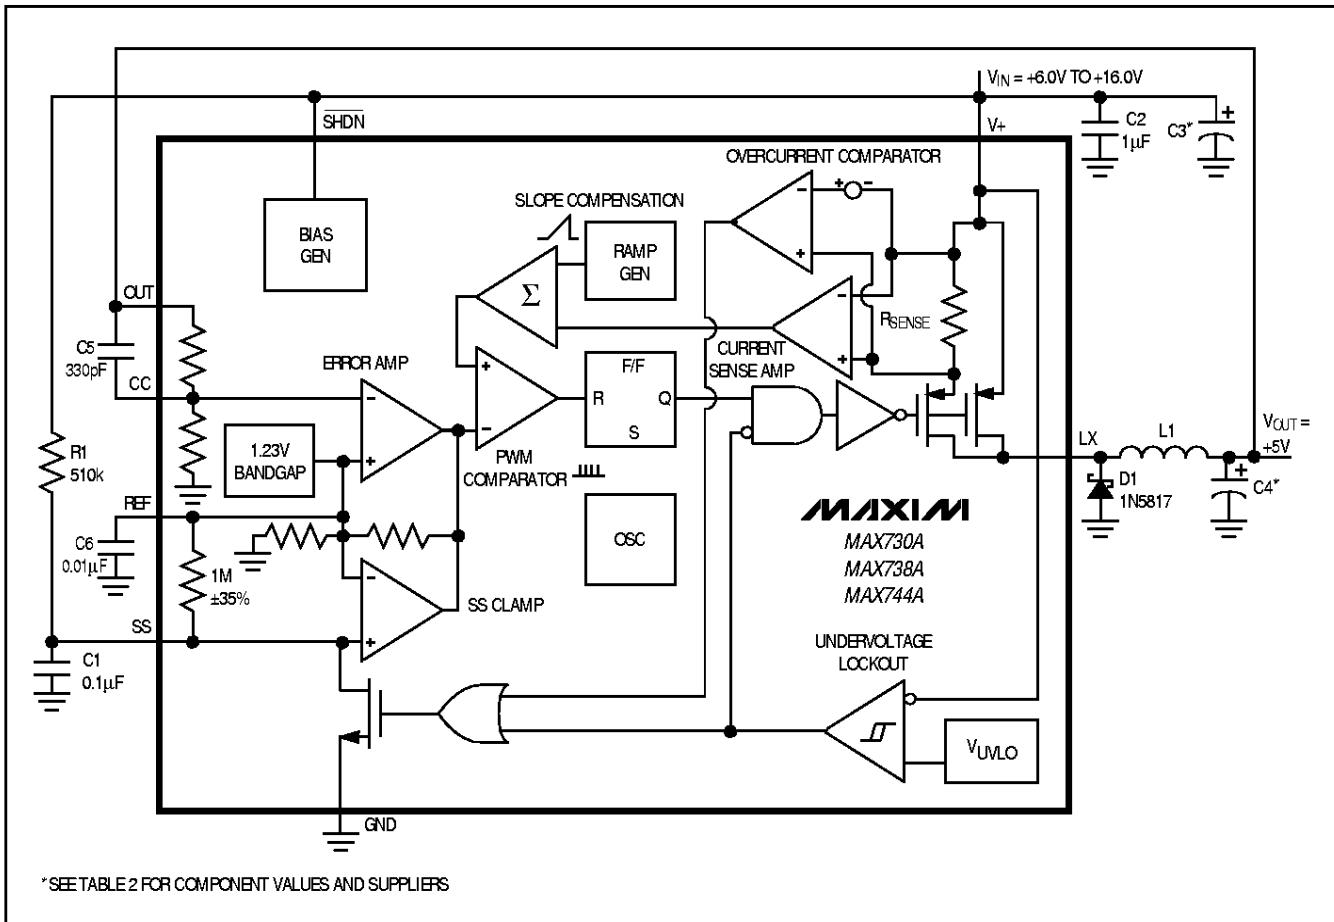

Figure 1. Detailed Block Diagram with External Components
The controller consists of two feedback loops: an inner (current) loop that monitors the switch current via the current-sense resistor and amplifier, and an outer (voltage) loop that monitors the output voltage through the error amplifier (Figure 1). The inner loop performs cycle-by-cycle current limiting, truncating the power transistor on-time when the switch current reaches a predetermined threshold. This threshold is determined by the outer loop. For example, a sagging output voltage produces an error signal that raises the threshold, allowing the circuit to store and transfer more energy during each cycle.
Figures 1 and 2 show a capacitor and a resistor connected to the soft-start (SS) pin to ensure an orderly power-up. Typical values are $0.1\mu F$ and $510k\Omega$. SS controls both the SS timing and the maximum output current that can be delivered while maintaining regulation.